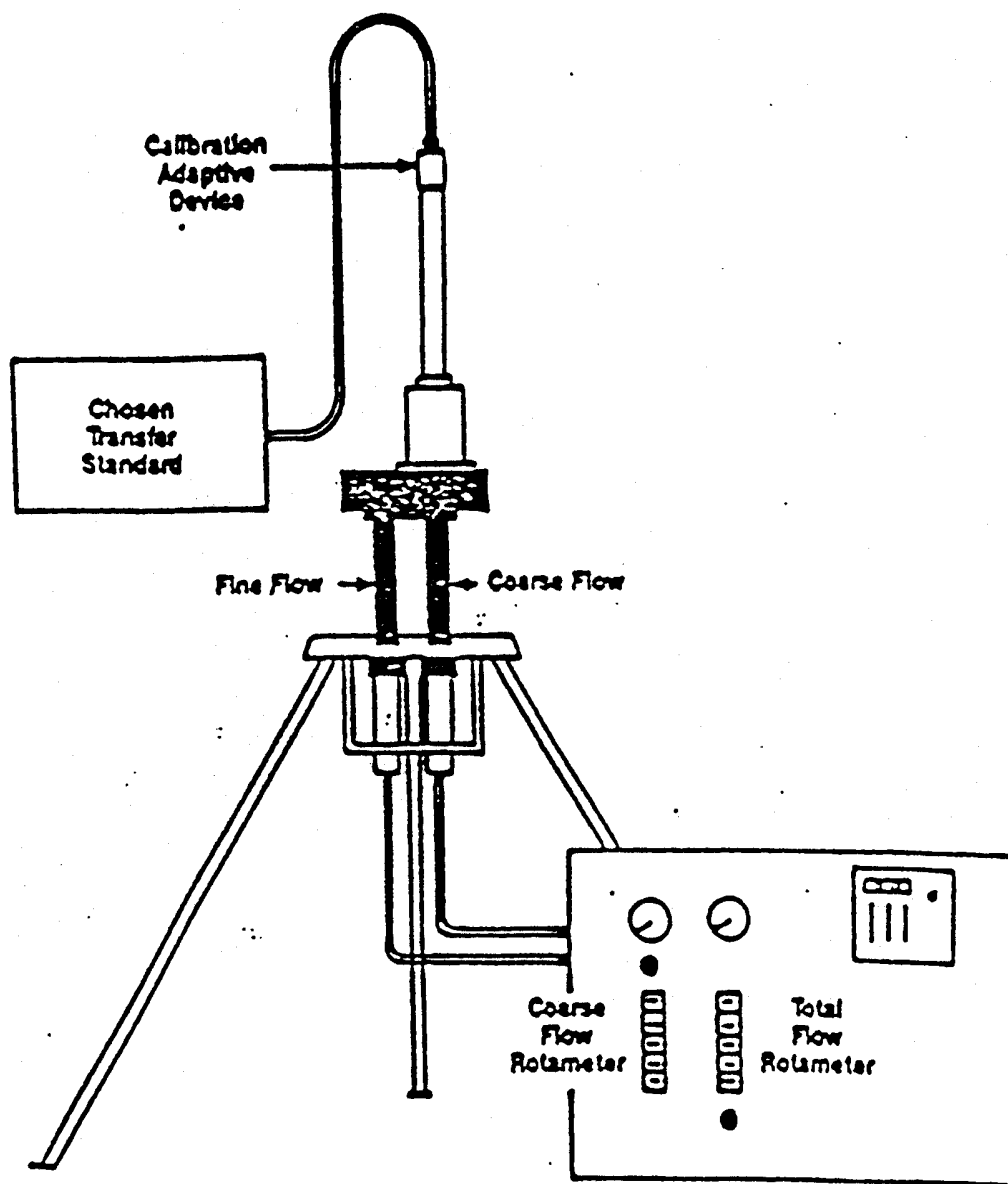

Figure M.2.1.4
1. Set up calibration system as illustrated in Figure M.2.1.4. The inlet of the transfer standard is open to ambient air; the outlet of the transfer standard is connected to the inlet tube of the dichotomous sampler.